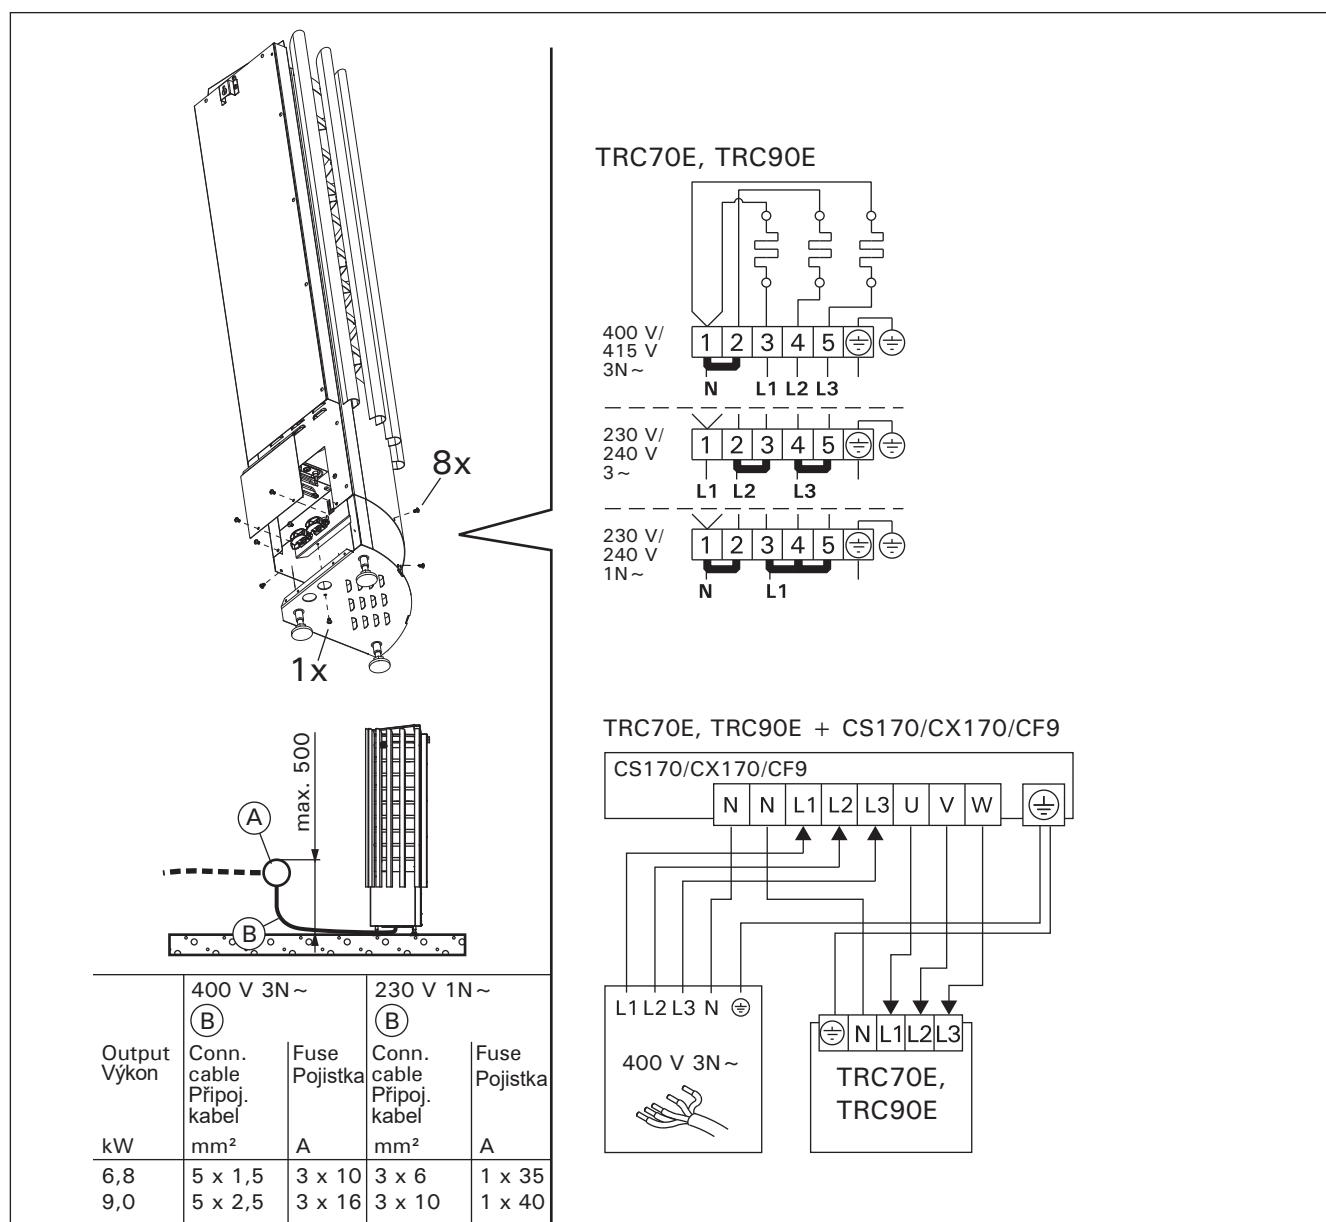

Figure 5. Electrical connections
- The heater is semi-stationarily connected to the junction box (figure 5: A) on the sauna wall. The junction box must be splash-proof, and its maximum height from the floor must not exceed 500 mm.
- The connecting cable (figure 5: B) must be of rubber cable type H07RN-F or its equivalent. **NOTE! Due to thermal embrittlement, the use of PVC-insulated wire as the connecting cable of the heater is forbidden.**